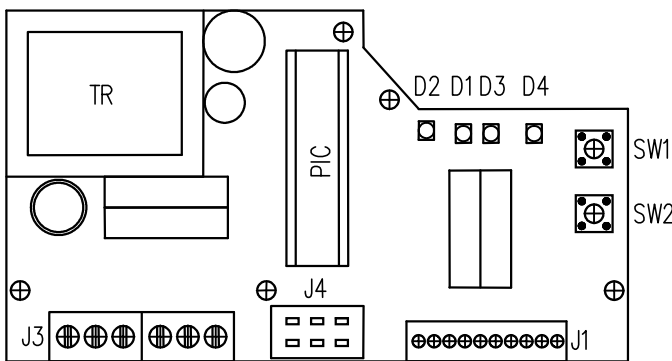

Fig. 8
*The trimmer (20) can be used to adjust the output signal of the capacitive transmitter to any value of operation stroke in range from ca 40% up to 100% of the value of the operation stroke adjusted by the producer and stated on the actuator's nameplate.*
**4.6 Resetting of operation angle and setting of stop end screws (Fig. 8)**
The valve operation angle position is defined with the stop end screws which allow to change the position from the position "Z" (closed - 0°) and from the position "O" (open - 60°, 90°, 120°, 160°) by a value of ±15°. For better understanding see Fig. 8 where the output shaft is in the position "Z" for the operation angle of 90°. The stop end screws serve as mechanical limits of the operation angle position at manual control or as end travel points for torque switching-off, else the mechanical gearing could be damaged.
### 4.7 Adjustment of position controller (Fig. 8)
Laying of adjusters and signalling elements on the board of the REGADA controller is shown on Fig.8: